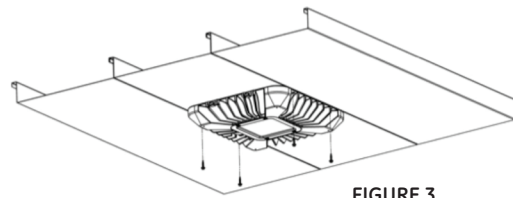

FIGURE 3
- C. Mount the luminaire using the provided hardware. Use 30in-lbs of torque for the mounting screws (do not over tighten or strip screws). If ceiling material is 22ga or lighter, an accessory backer plate is recommended. (See Fig.3)